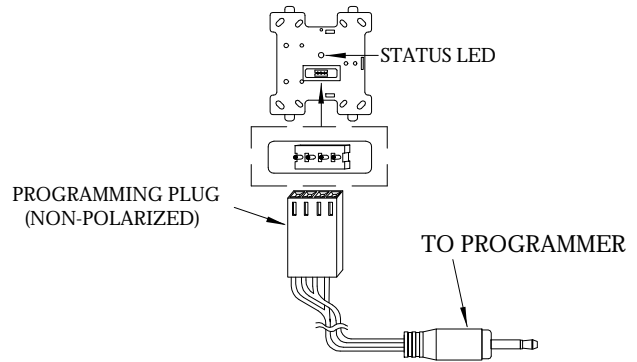

FIGURE 1.
- 3) The address must be set on the FRCME-4 before the cover plate is attached (see Fig. 1).